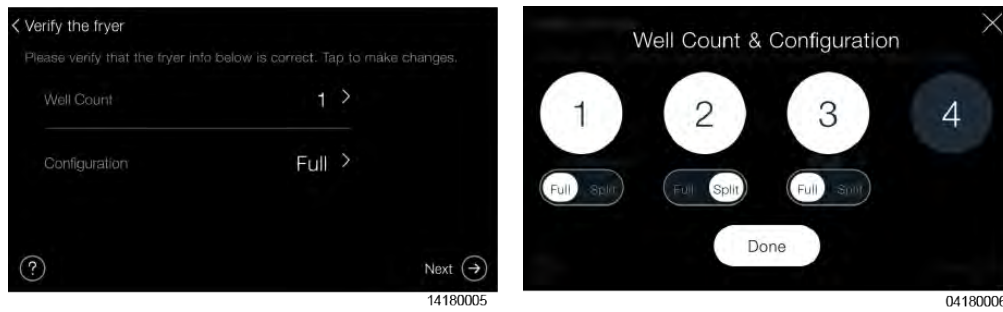

Figure 3-4
- 8) Tap the Well Count number, and then select the number of vats, configuring them to either full or split to match the configuration of your fryer. Refer to Figure 3-4, page 13.